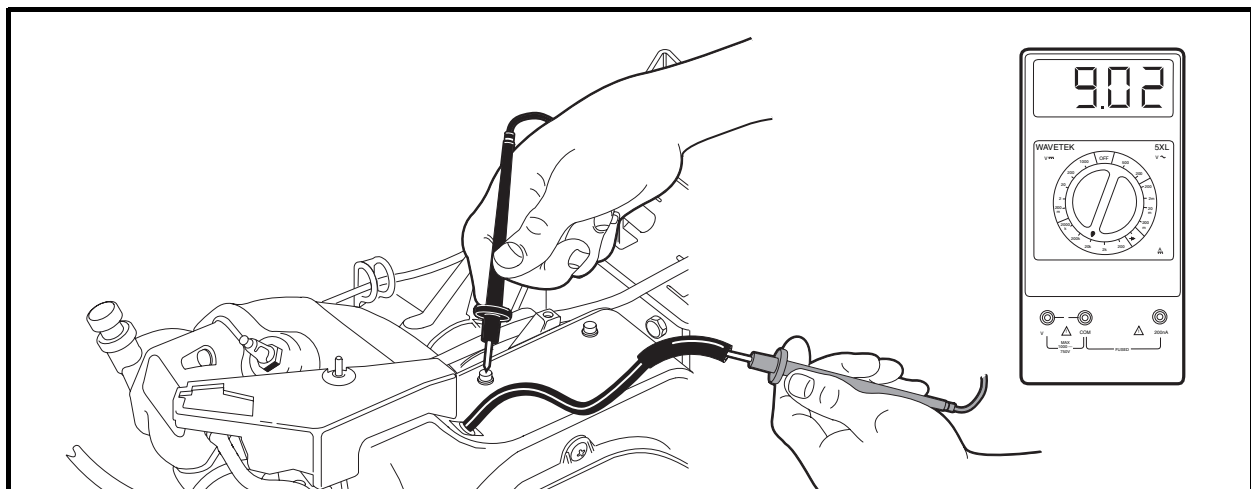

Figure 11-30 Secondary Coil Test without Cap
- 5.1. Using a multimeter set to 20k ohms, place the red (+) probe of the meter into the end of the spark plug wire and place the black (-) probe on a clean unpainted surface of the engine or frame (**Figure 11-30, Page 11-28**). If the resistance is between 6.0k - 11.0k ohms, the secondary coil is within acceptable limits. If the resistance is not between 6.0 k - 11.0k ohms, bench test the ignition coil. **See Test Procedure 15B – Ignition Coil – Bench Test on page 11-29.**